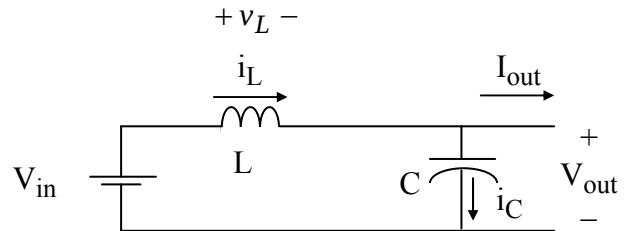
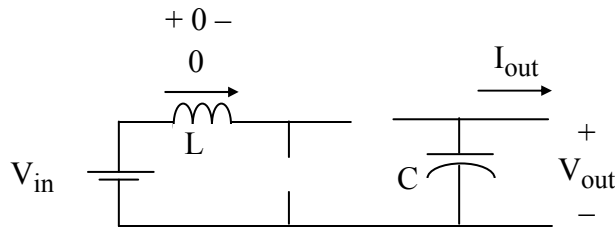

Figure 2b. Switch Open for $(1-D)T$ Seconds (Continuous Conduction)
Figure 6. Third State for Discontinuous Conduction
At low load, the converter may slip into the discontinuous conduction mode. Referring back to Figure 2b, this occurs when the inductor current coasts to zero. At that moment, the capacitor attempts to reverse i_L and “backfeed” the inductor, but the diode prevents current reversal. Thus, the diode opens, and the circuit assumes the topology shown in Figure 6 until the switch closes again. During this third state, all load power is provided by the capacitor.
Referring to Figure 2b, when the MOSFET is open, it is subjected to V_{out} . Because of the usual double-voltage switching transients, the MOSFET should therefore be rated $2V_{out}$.
2. Modify the MOSFET D-control circuit according to the MOSFET Firing Circuit document for Boost Converter Operation. Check your range of D with the expected D range given in Figure 2b in that document.